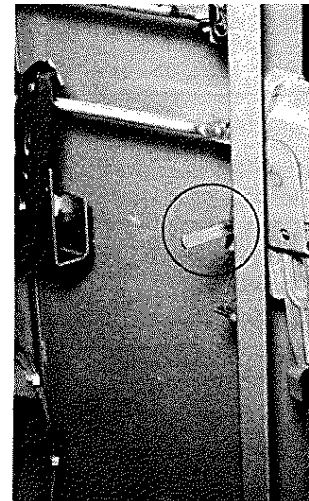

Figure 2
2. Push down on the operating mechanism latch (Fig. 2) located in the interior of the manual magnetic disconnect switch and simultaneously move the operating handle to the up or ON position.